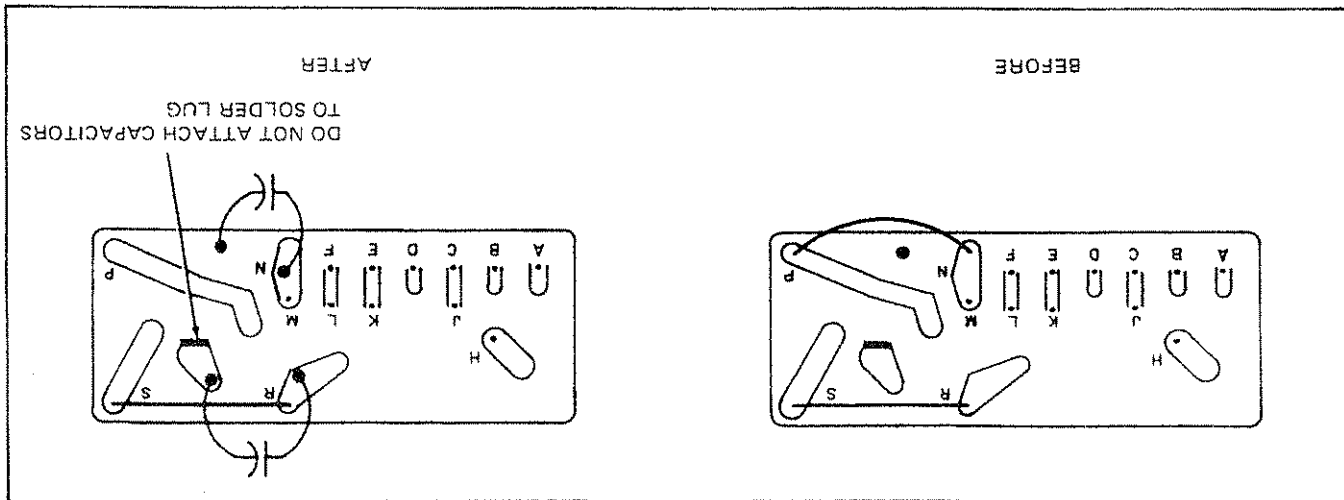

Figure C-5. Pictorial Representation.
b. Add capacitors as shown in Figure C-5 and C-6.